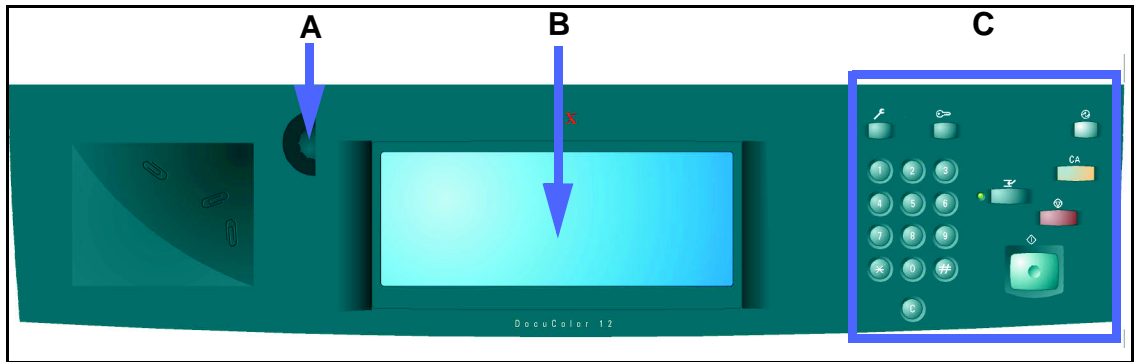

Figure 2: Control Panel
As illustrated in Figure 2, you will use the Contrast dial (A) on the left side of the Touch Screen (B) to make the Touch Screen brighter or darker. Turning the dial clockwise darkens the screen and turning it counterclockwise lightens the screen.